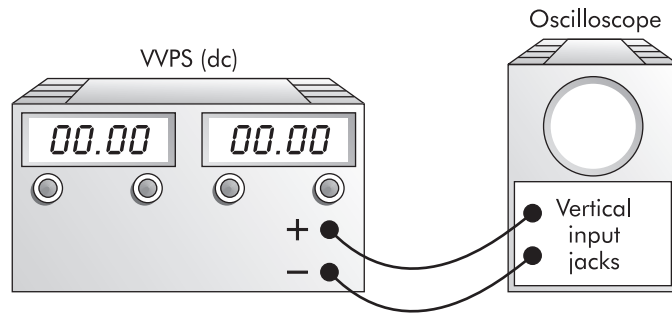

FIGURE 35-1
2. Connect a variable voltage dc source to the vertical input of the scope, (– terminal to ground) (+ terminal to vertical input), Figure 35-1.